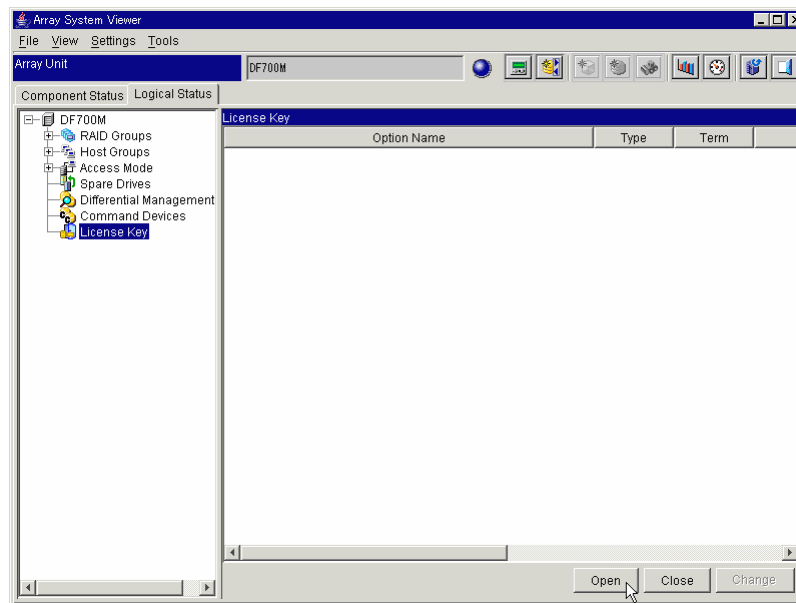

Figure 4.1 Array System Viewer (Logical Status Tab)
4. Click the **Logical Status** tab (Figure 4.1).
5. Click the **License Key** icon (Figure 4.1).
3. Click the **Logical Status** tab (Figure 4.1).